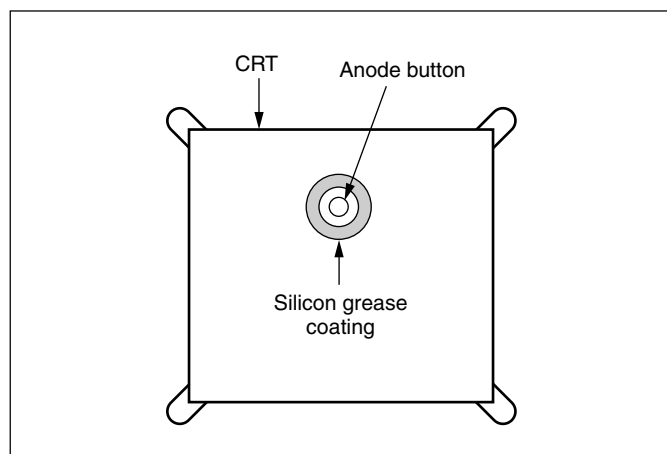

Fig. 5
- Subsequent to replacement of the CRT and HV transformer or repair of the anode cap, etc. by dismantling them, be sure to coat silicon grease for electrical insulation as shown in Fig. 5.
- 1. Wipe around the anode button with clean and dry cloth. (Fig. 5)